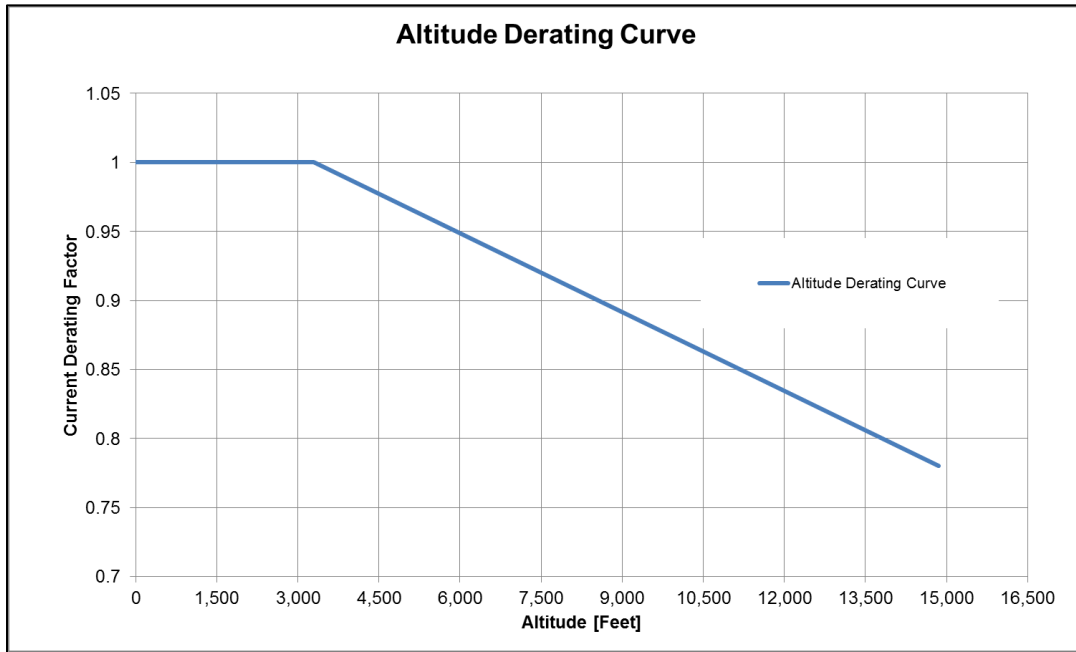

Figure 3-2: Altitude Derating Curve
- Altitude:** 3,300 feet above sea level without derating. See Figure 3-2: Altitude Derating Curve (p12) for derating curve.